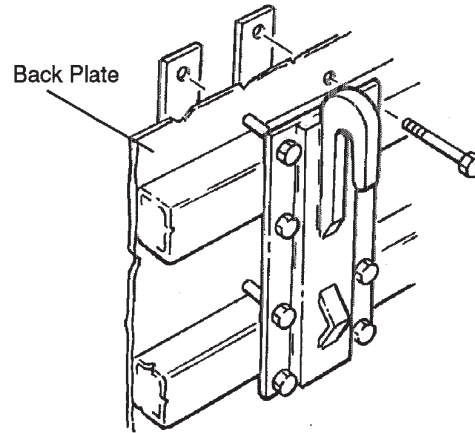

Fig. 2A. Bolted Bracket
2. If the Shear Bucket mounting brackets are to be bolted to the machine, it will be necessary to drill through the back plate to accept the mounting bolts and straps which are used to bolt the brackets to the rear frame. (See Fig. 2A)